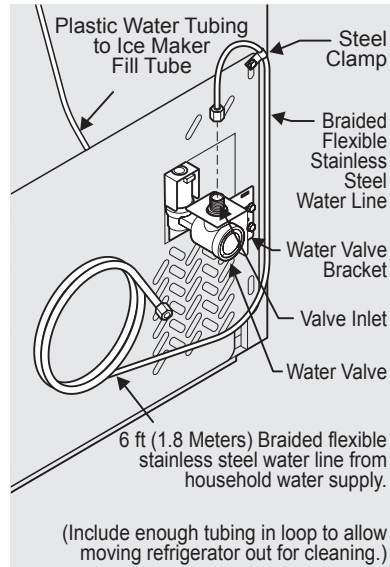

Figure 2
- The nut is already assembled on the tubing. Slide nut onto valve inlet and finger tighten nut onto valve. Tighten another half turn with a wrench; DO NOT over tighten. See Figure 2.